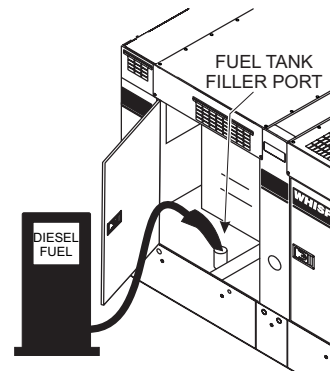

Figure 32. Fueling the Generator
2. Open cabinet doors on the “right side” of the generator (from the generator control panel position). Remove the fuel cap and fill the tank (Figure 32).